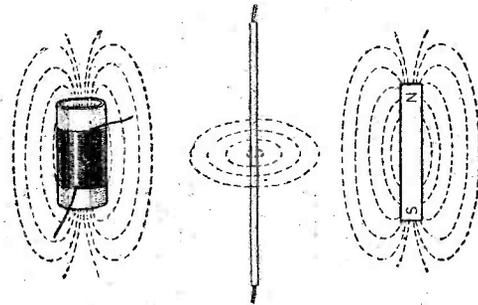

Fig. 1.—Diagrammatic magnetic fields round a coil, wire and a bar magnet.
**S**CREENING in a radio receiver consists essentially of preventing the magnetic or electrostatic field of one component from extending and linking with the field of another component or with the field of an unwanted signal. That somehow bald explanation might be rather confusing to the non-technical reader, so it would be well to explain that when an alternating or radio-frequency current is passed through a component such as a coil, transformer, or even a length of wire, a magnetic field is set up round that component. Fig. 1 shows the idea in a diagrammatic way, and the field of a coil is compared with that of an ordinary bar magnet.